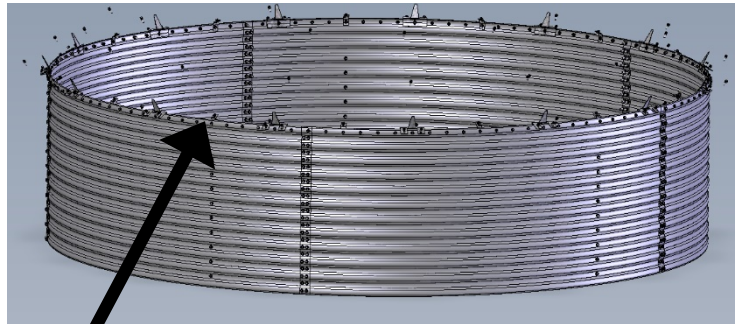

Figure 4-16: Roof Hardware Installed Around Top Edge of Upper Side Wall
1. Install roof kit hardware to the top edge of the top tier side panels as shown in Fig. 4-16, 4-17 and 4-18.